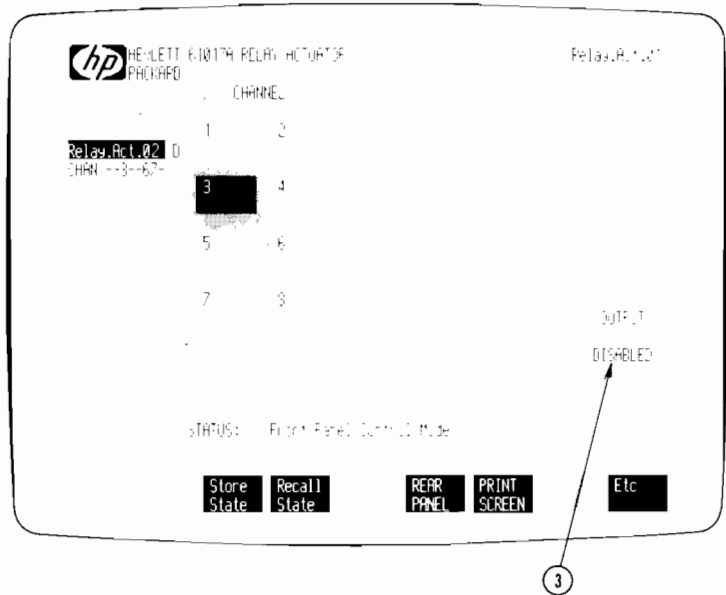

Figure 2-3. Enable the Output
Step 3 - When you point to and select the channel 3 field, its background turns bright (see Figure 2-3). Because the output field indicates DISABLED, the selection process did not close any relays on your instrument. The output must be enabled before the channel 3 relay can close. Point to and select DISABLED to enable the output. (The output field toggles between ENABLED and DISABLED.)